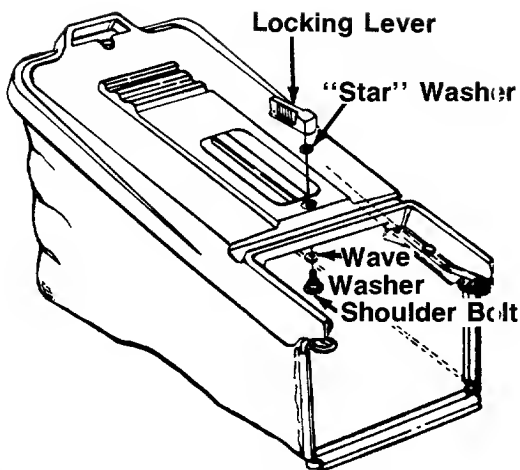

FIGURE 10.
- Insert shoulder bolt up through hole in hardtop cover as shown in figure 10. Place "star" washer over shoulder bolt.